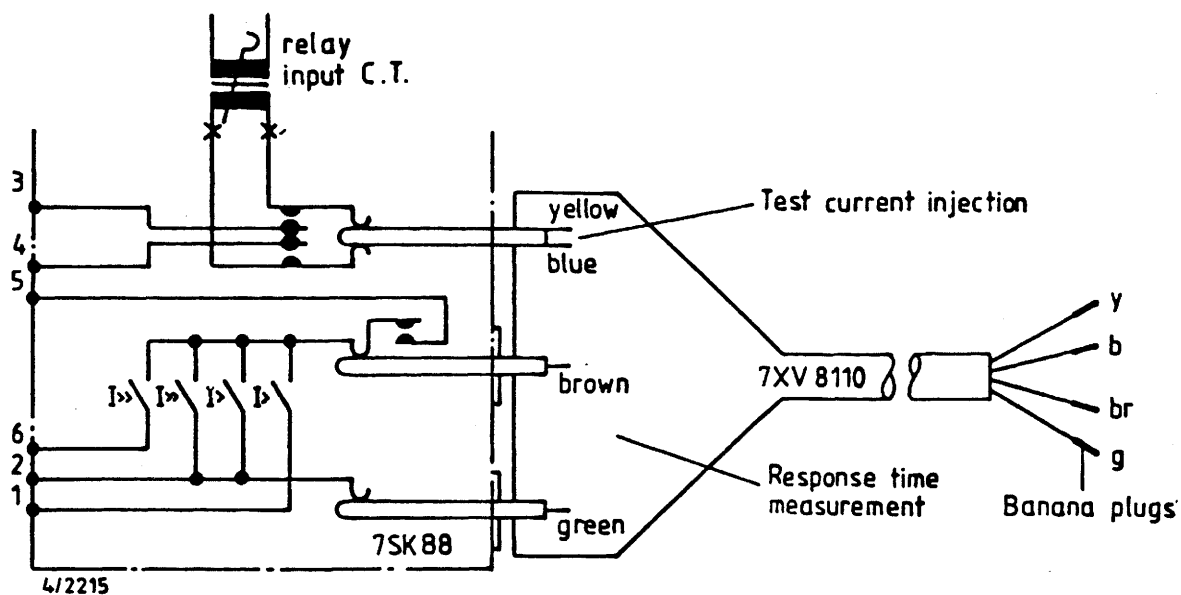

Fig. 9: Diagrammatic representation of effect of inserted test plug 7XV8110
- b) Using test plug with the associated cable 7XV81 (which includes the trip circuit output - see figure 9) check the operating time at one or two points on the characteristic, one with a test current of approximately four times plug setting and one at a higher value if possible (Siemens test sets 7VP44 or 7VP461 may be used for this purpose). The permissible tolerance should not exceed $\pm 20 \%$ (according to BS 142).